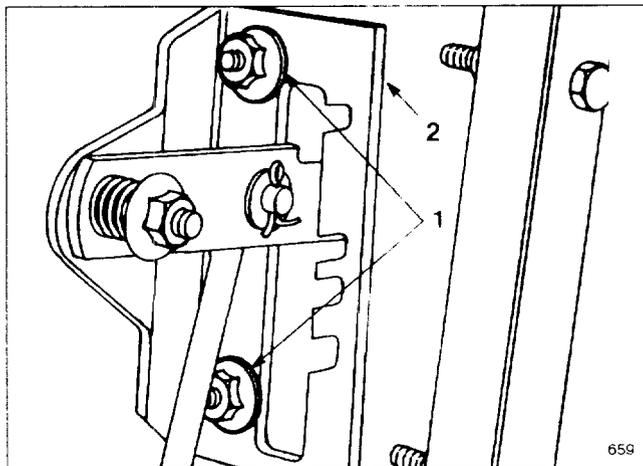
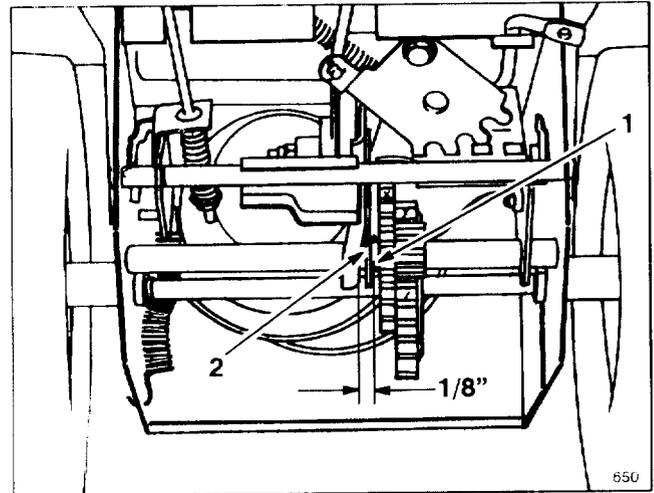

Figure 27
Figure 28
3. Loosen flange nuts securing selector plate to control panel. This allows selector plate to move freely for adjustment (Fig. 27)
4. Shift speed selector to third gear and push down on speed selector plate to move drive assembly to the right. Drive assembly should be 1/8" from roll pin; if not, slide selector plate (Fig. 27) until 1/8" dimension is correct (Fig. 28).